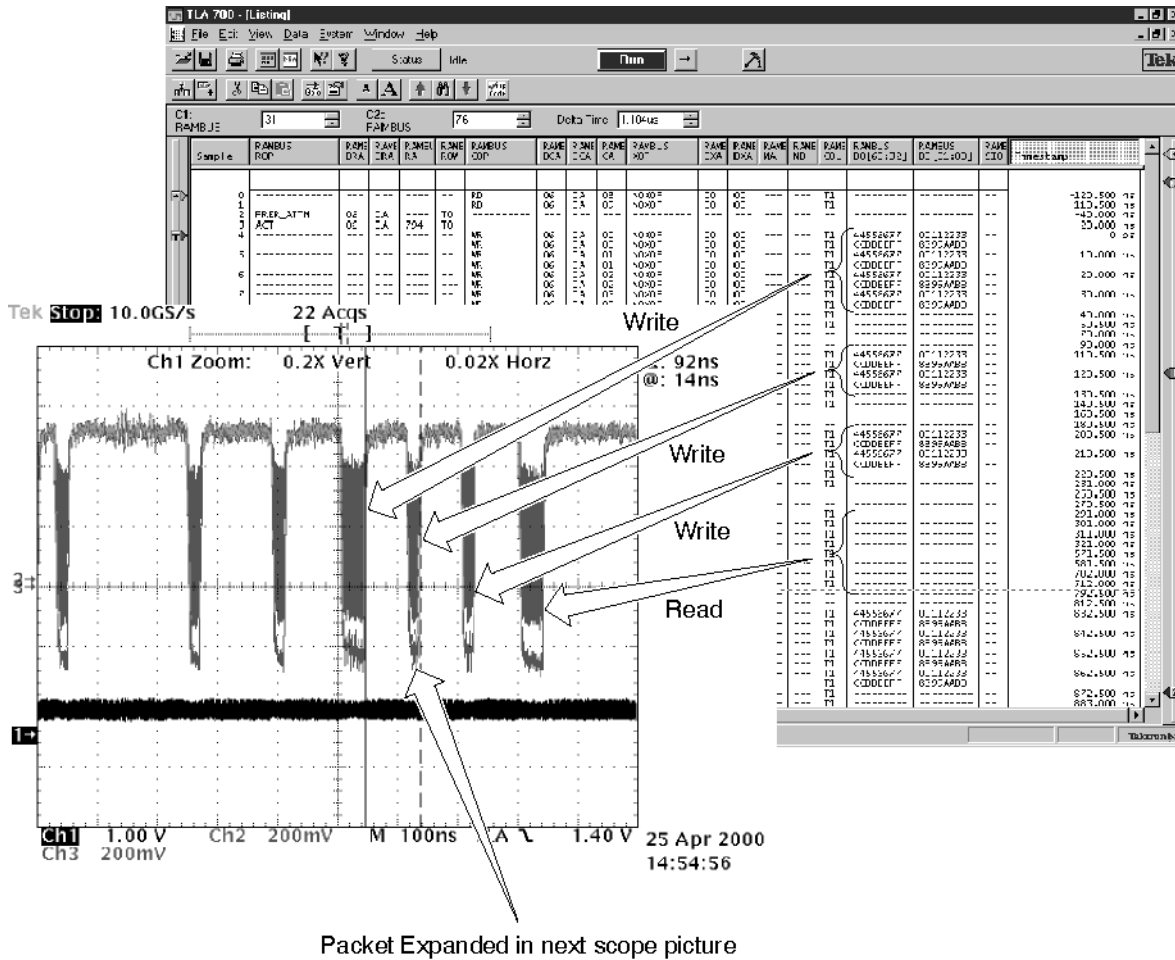

Figure 2-5: Data bits displayed on the oscilloscope
**Data Bits Displayed on the TDS694C Oscilloscope.** The logic analyzer will now trigger the TDS oscilloscope on a trigger event defined in the logic analyzer trigger menu. Please test this out to ensure that a trigger is successfully achieved. Rambus activity occurs in bursts and is separated by times that vary. Figure 2-5 shows that during high bus activity, there are multiple bursts of activity and you can see that the separation between bursts compares to the logic analyzer separation.